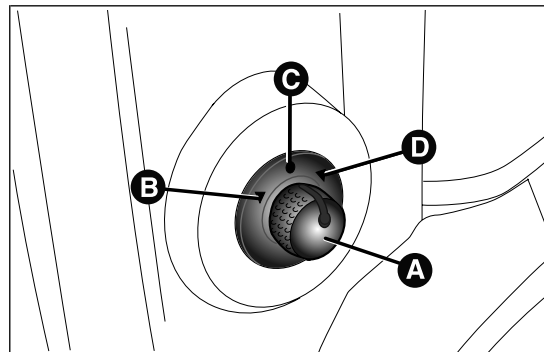

fig. 24
- ☐ select the desired mirror (left or right) using switch A fig. 24 ;